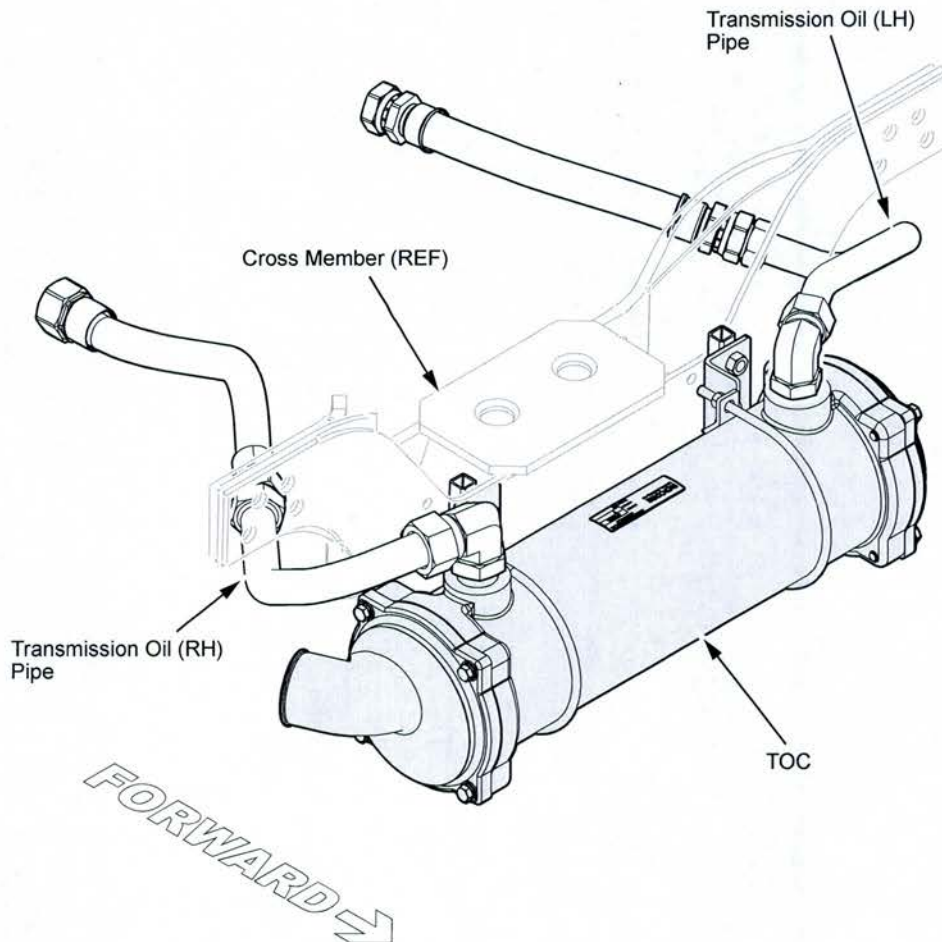
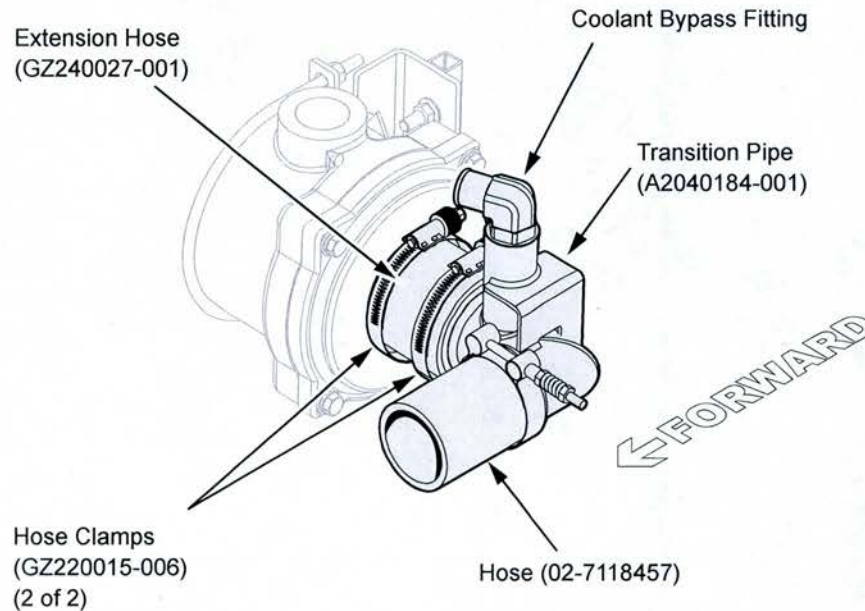
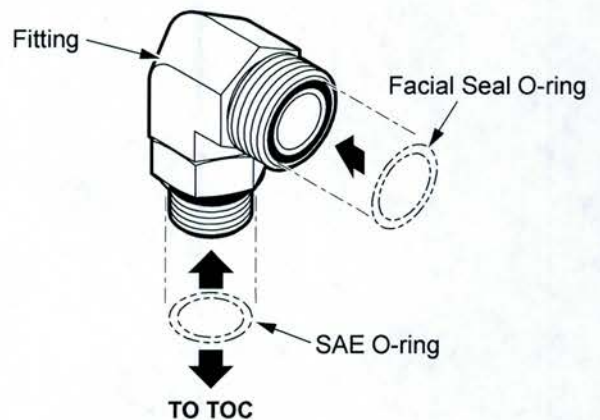

Figure 8
Figure 9
Figure 10
into the new TOC; then, connect the TOC pipes (RH/LH) to the fittings. Orient the fittings as noted during removal in step 8. Tighten to 150 ft-lb (203 N-m) of torque (see Figure 8 and Figure 10)
16. On the LH side of the TOC, install the extension hose (GZ240027-001) and 2 hose clamps (GZ220015-006) (see Figure 9).
17. On the LH side of the TOC, install the transition pipe (A2040184-001) onto the extension hose and tighten the 2 hose clamps to 60 In-lb (7 N-m) of torque (see Figure 9).
the coolant bypass hose. Install the fitting onto the transition pipe; then, connect the coolant bypass hose to the fitting. Tighten to 85 ft-lb (115 N-m) of torque (see Figure 9 and Figure 10)